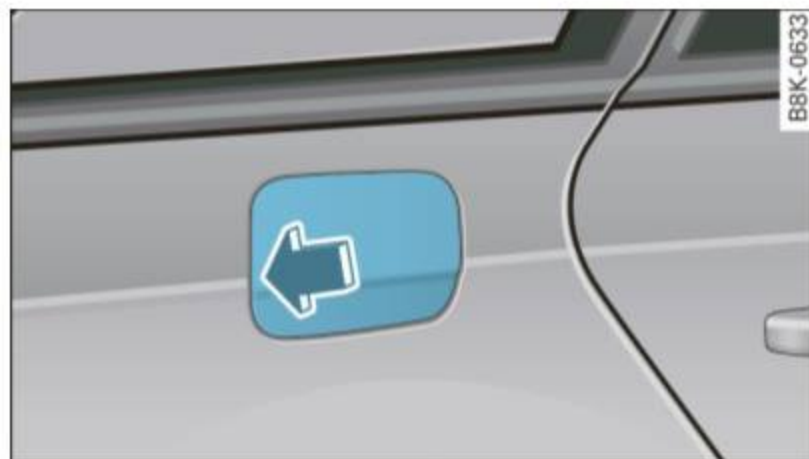

Fig. 207 Right rear vehicle side: Opening the fuel filler flap
- Press the left side of the fuel filler flap to open it ⇒ fig. 207 -arrow-.